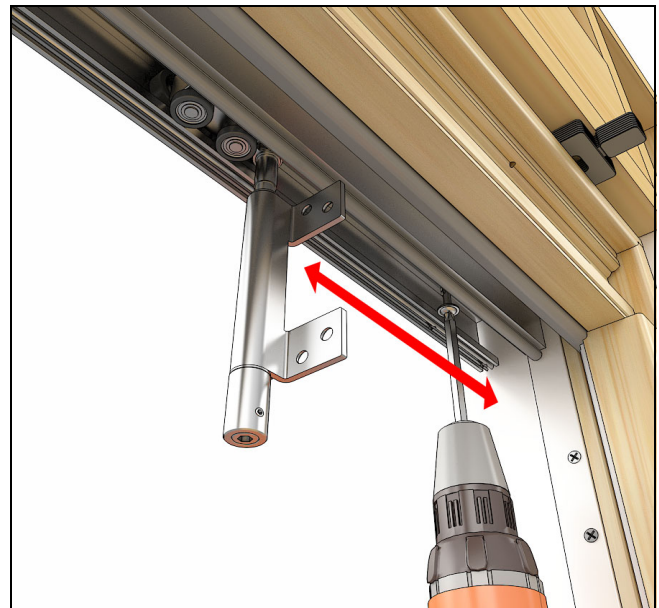

Figure 16
7. Place shims at each head jamb install screw location. Fasten the head jamb track through all the pre-drilled holes and test fit carrier. Apply sealant to the threads and heads of each screw prior to fastening. See Figure 16. **NOTE:** These screws are installed at a slight angle towards the interior.